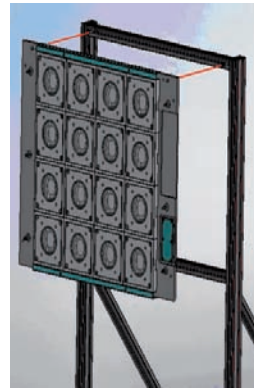
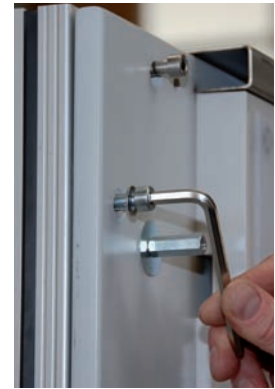

fig. 3.1-30
fig. 3.1-31
Step 24 Fit the basic module **A3** to the socket head screws **M8x40** (*fig. 3.1-30*) and bolt it on to the aluminium frame using the six (6) socket head screws **M8x30** and the six (6) washers (*fig. 3.1-31*).